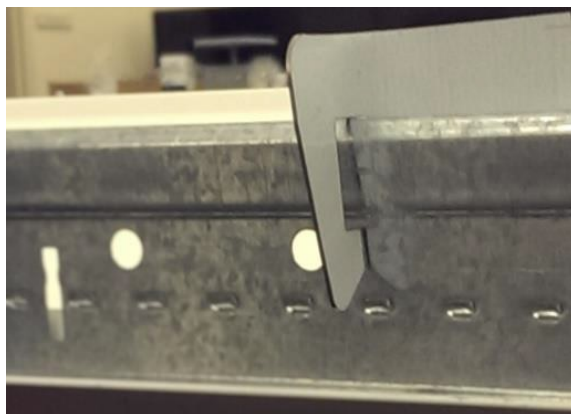

Figure 1: Attached T-Bar Clip
2. From above ceiling, bend the attached T-Bar clips over the T-Bar ceiling on all 4 corners to secure the fixture to the T-Bar ceiling as shown in Figure 1. For suspension mounting, refer to Figure 2, and instructions provided with aircraft cable accessory.